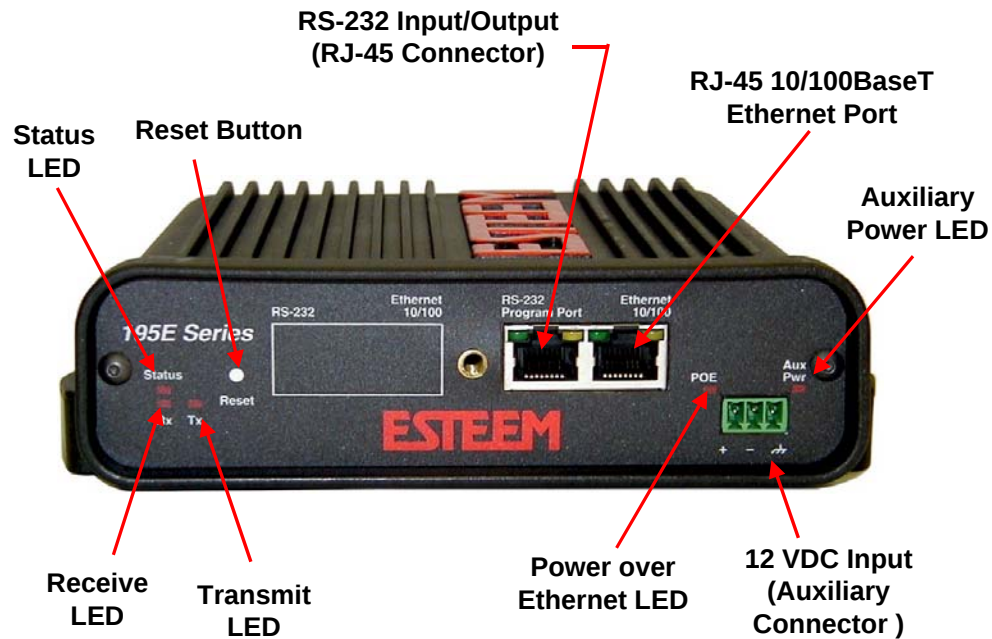

Figure 1: 195Ep Front Panel Overview
3. From navigation menu on the left side of the page, select ESTeem Utilities (Figure 1).